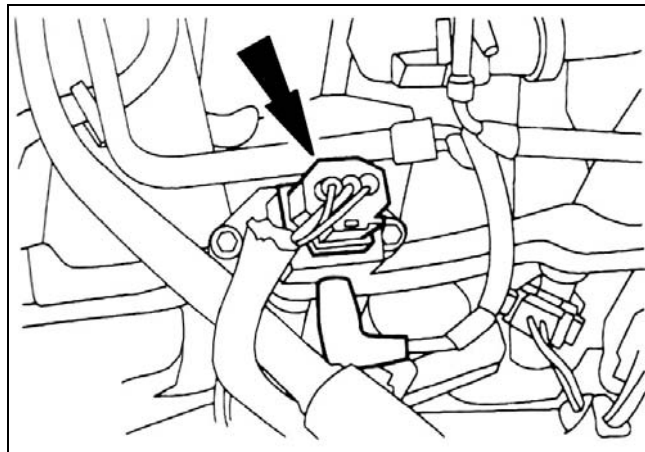

Figure 13
20. Disconnect the fuel pressure sensor electrical connector (Figure 13).